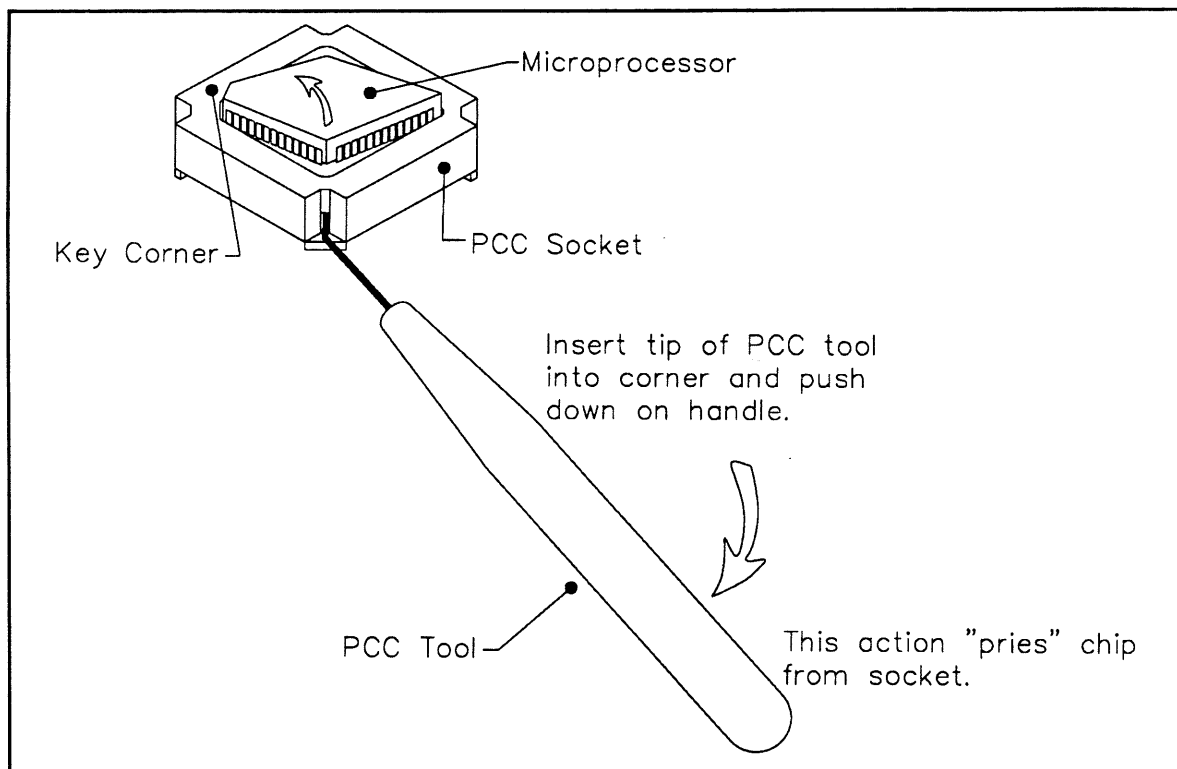
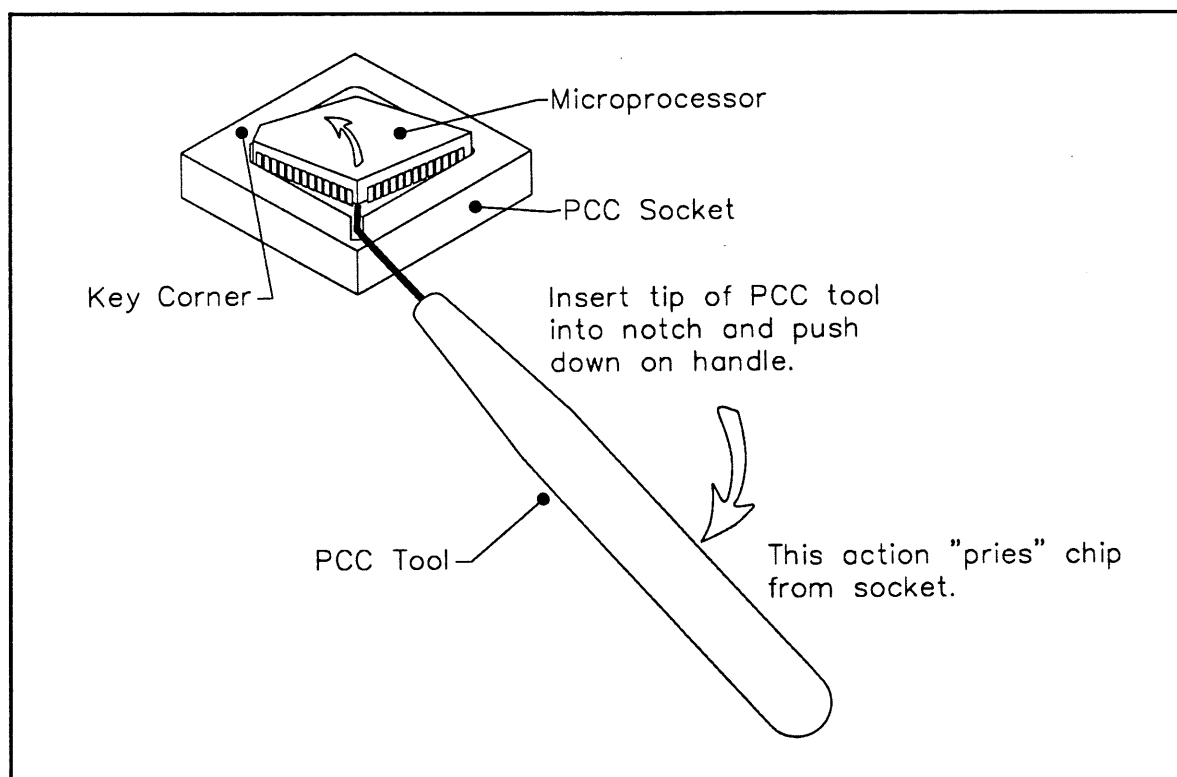

Figure 5-8a. Removing the MPU.
Figure 5-8b. Alternate Method for Removing the MPU.
2. Using a PCC extractor tool, remove the MPU from its socket as illustrated in Figure 5-8a or Figure 5-8b.
>> Note The MPU is placed in either of two sockets as illustrated in Figure 5-8a or Figure 5-8b. The basic difference of these sockets is where you place the tip of the extractor tool to remove the MPU.